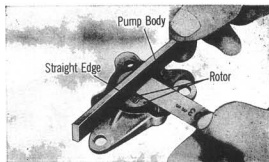

Fig. 11
- Measuring the end clearance of the rotor. Place a straight edge across the pump housing and check the clearance of the rotor with a thickness geuge (Fig. 11).